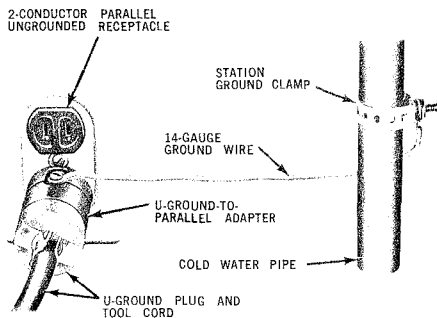

Fig. 7 – Ungrounded 2-Conductor Receptacle
- Attach, between ground terminal on adapter and grounded object selected, a ground wire (See Fig. 7), making certain a good metallic connection at both ends is accomplished.